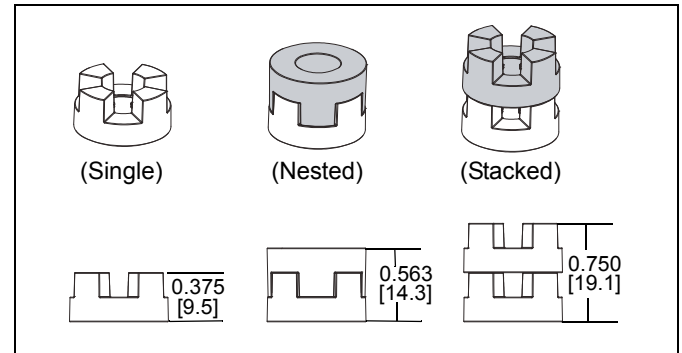

Figure 6
**NOTE:** The nesting spacers (MA) may be used separately, or put two together in different configurations to create different size spacers. (See Figure 6)